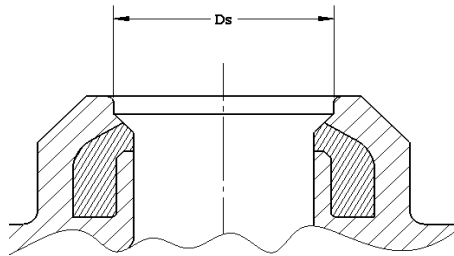

Figure 42: Critical Seat Dimension
2. Referring to Figure 42, measure the diameter, D_s , of the nozzle. This diameter must be in the range of values listed in Table 3.